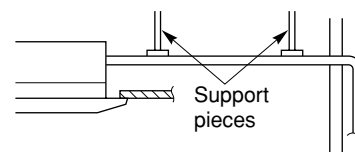

Fig. 3-30
- Do not apply force to the piping on the unit side when connecting the drain pipe. The pipe should not be allowed to hang unsupported from its connection to the unit. Fasten the pipe to a wall, frame, or other support as close to the unit as possible. (Fig. 3-30)